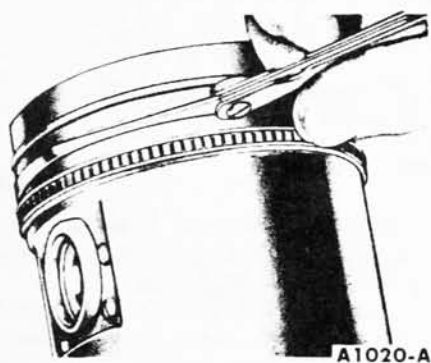

FIG. 20—Ring Side Clearance
6. Check the ring side clearance of the compression rings with a feeler gauge inserted between the ring and its lower land (Fig. 20). The gauge should slide freely around the entire ring circumference without binding. Any wear that occurs will form a step at the inner portion of the lower land. **If the lower lands have high steps, the piston should be replaced.**